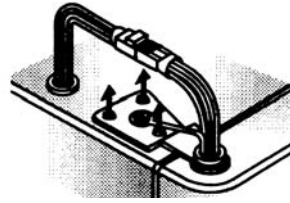

Figure 3
Detach main wire connector harness. Do not remove screw connecting green ground wire. (See figure 3).
3. Place brass nut (A) and sleeve (B) on copper tube end as illustrated. **Remember:** Do not use old sleeve. The nut and the sleeve are provided in the consumer literature packet. See figure 3.